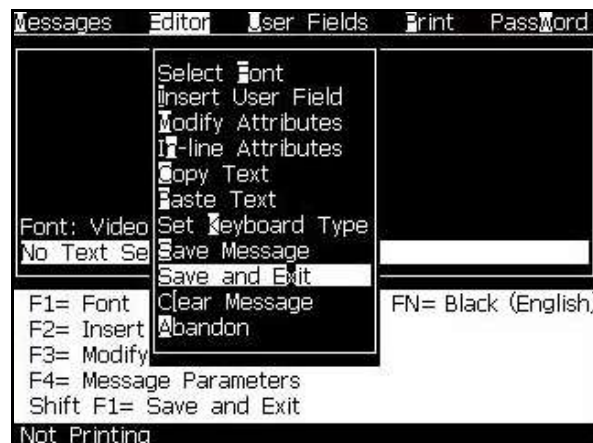

Figure 5-15: Save and Exit Option
- Select *Save and Exit* from the *Editor* menu (Figure 5-15).